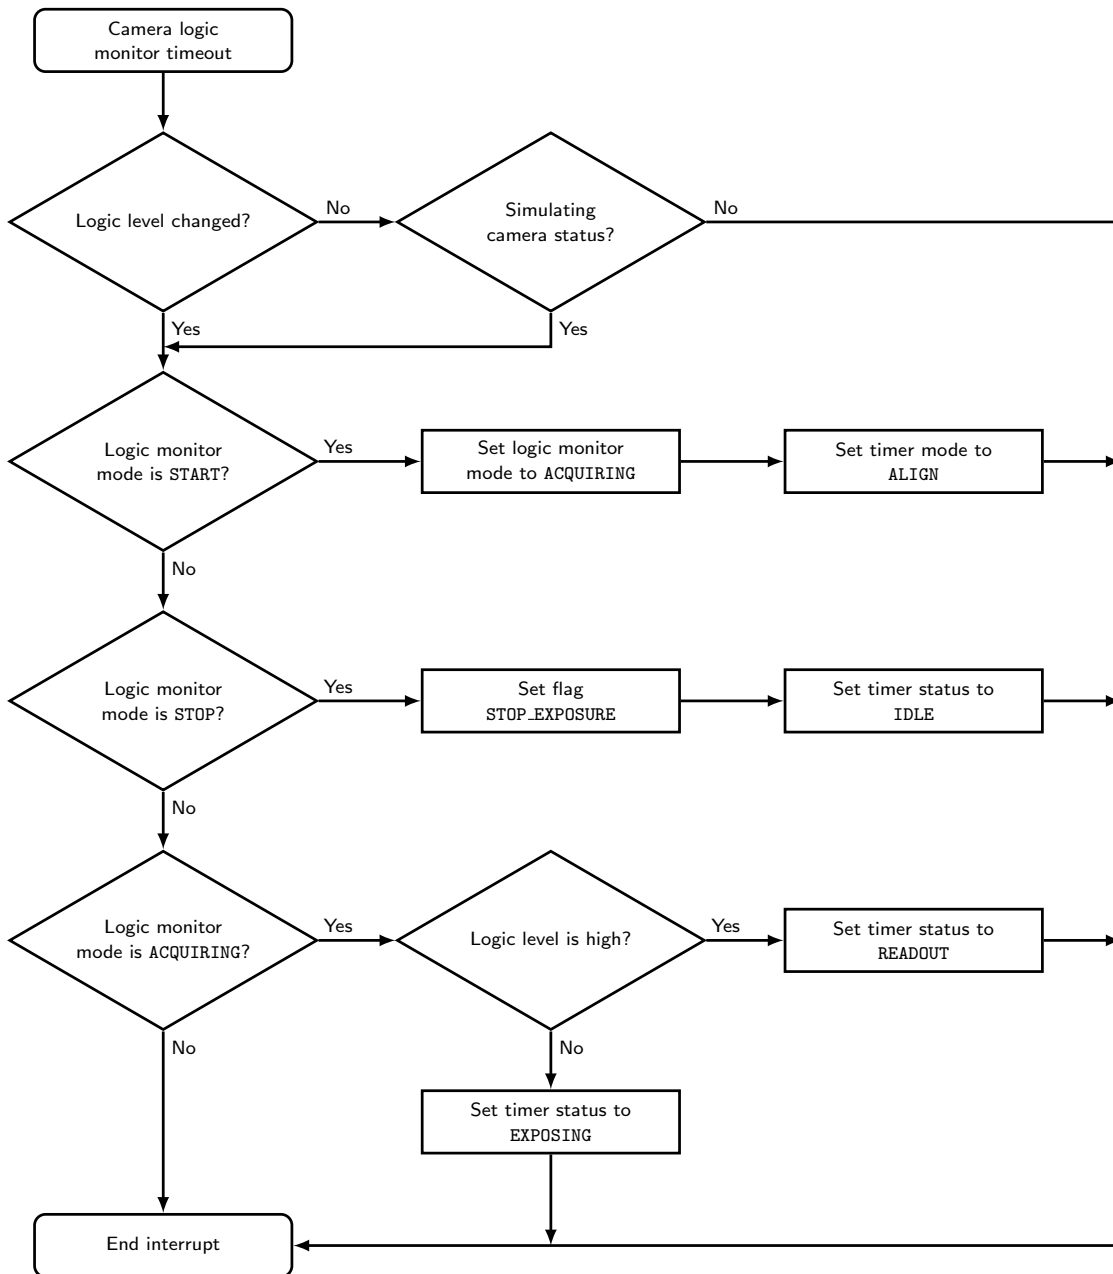

Figure A.5: A block diagram showing the camera monitoring logic.
- A timeout used to verify and act on camera logic output change (Figure A.5).